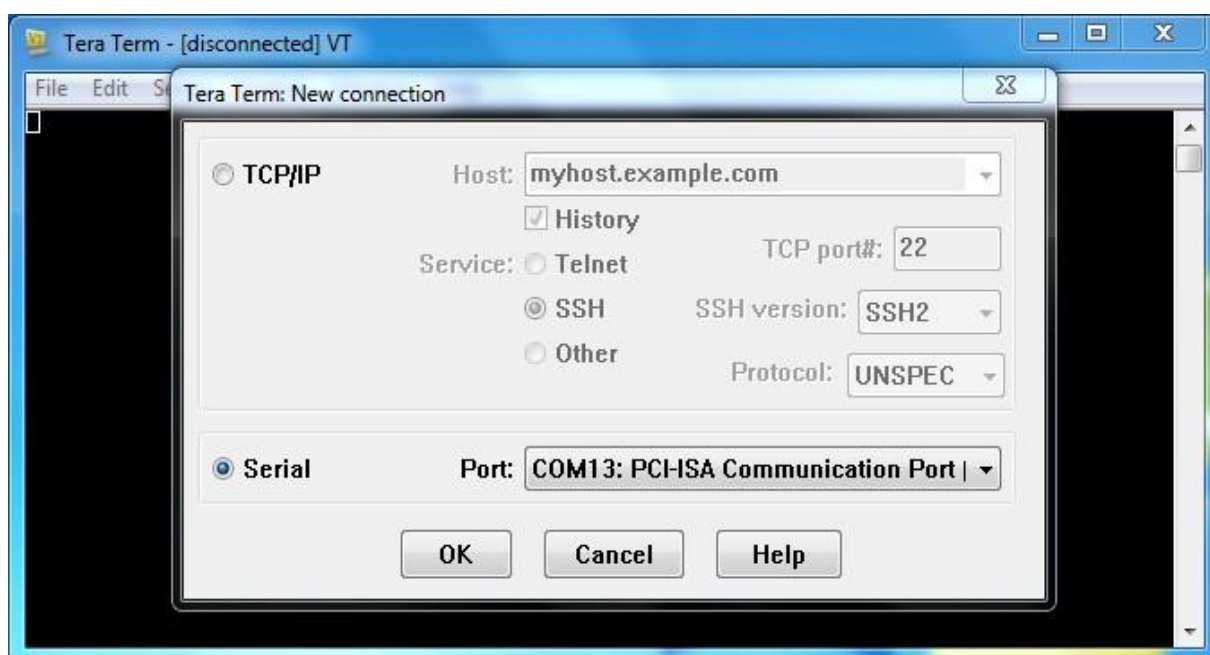

Figure 15 Tera Term New Connection Window
1. Open Tera Term program and Select Serial Port. The corresponding port to which the Tiva is connected in the Tera Term is displayed in the **New Connection** Window as shown in Figure 15. The serial port option is enabled only if the Tiva Drivers are properly installed, else it stays at TCP/IP. The Serial Port number will differ based on the USB to Serial Emulation and the connectivity.